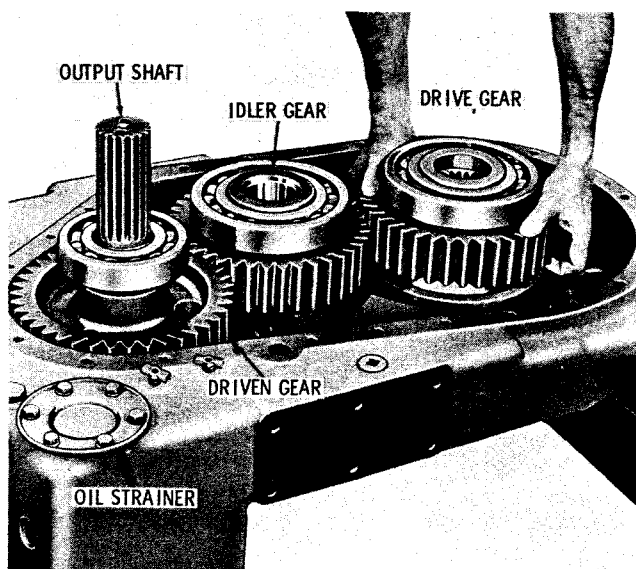
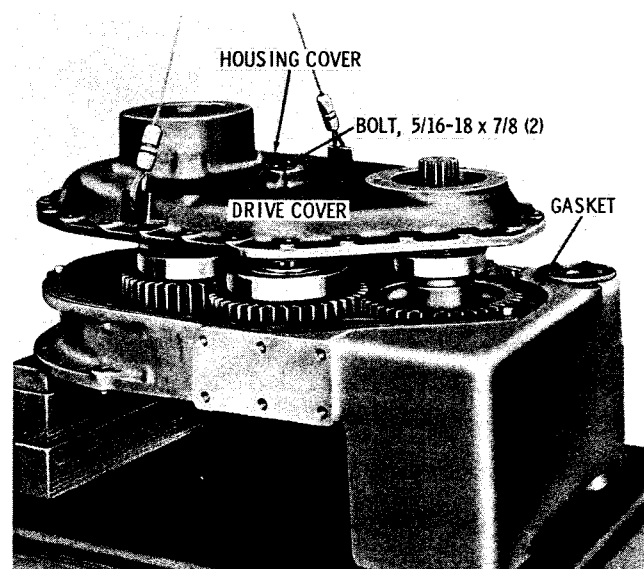

Fig. 7-2. Installing transfer drive gear
Fig. 7-3. Installing transfer gear housing cover
(6) Install the drive gear, idler gear, and driven gear assemblies into the transfer gear housing (fig. 7-2). Pay particular attention to the position of the driven gear assembly to insure that the output shaft is properly positioned.
(7) On transmissions which have a speedometer drive (refer to items 52 through 60, foldout 14), install washer 58 onto shaft 60. Install shaft 60 into drive sleeve assembly 54. Install gasket 59 onto sleeve 55. Install the assembled parts into the transfer gear housing cover. Install two 5/16-18 x 7/8-inch bolts, with lock washers. Tighten the bolts to 15 to 18 pound feet.
(8) On transmissions which have a speedometer drive cover (items 8 through 11, foldout 13), install gasket 8, cover 9, and two 5/16-18 x 7/8-inch bolts 11, with lock washers 10. Tighten the bolts to 15 to 18 pound feet torque (fig. 7-3).
(9) Install the transfer gear housing cover and gasket (fig. 7-3).